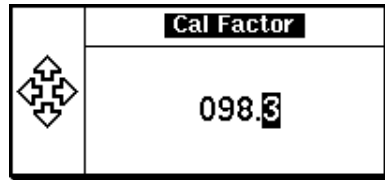

Figure 7-6 Calibration factor pop-up window
- 10** If required, change this setting by pressing the channel **Cal Fac %**. The calibration factor pop-up window is displayed as shown in Figure 7-6.